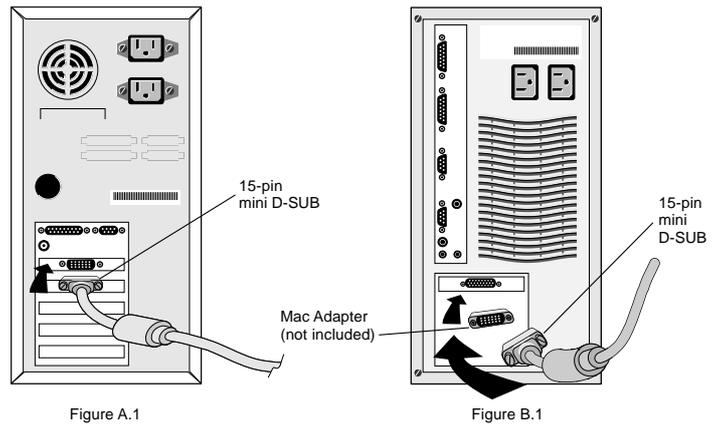

Figure C.1
3. Remove connector cover and cable cover. Connect the 15-pin mini D-SUB of the video signal cable to the appropriate connector on the back of the monitor (Figure C.1). Place the Video Signal Cable under Clip A. Then place AC Adapter Cable under Clip B. Replace connector cover and cable cover.